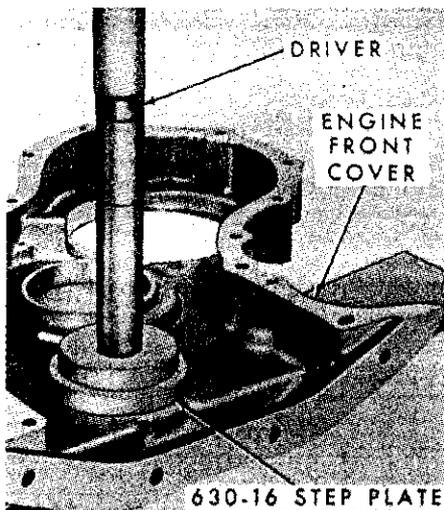

Fig. 90—Installing the crankshaft front oil seal in engine timing gear cover.
**97. FRONT OIL SEAL.** Crankshaft front oil seal is mounted in timing gear cover and cover must be removed to renew seal. Timing gear cover removal procedure is outlined in paragraph 77 or 80. To renew seal, drive dust seal and oil seal out towards inside of timing gear cover. Install new dust seal in timing gear cover first, then using a seal driver (OTC No. 630-16 step plate or equivalent), install new oil seal in cover with spring loaded lip towards inside of cover. Refer to Fig. 90.